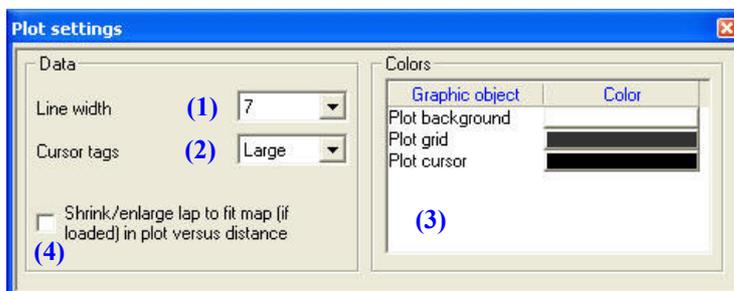

Fig. 4.14– *Plot settings* window
The layout of the view for the *Plot settings* window is shown in Figure 4.14 and described in the following chapters.
- To change the graph line width, please select the “line width” menu, shown as (1) in Figure 4.14, and choose the desired line width among the 6 possible values: 1 (the narrowest), 2, 3, 5, 7 and 9 (the widest).
- To change the cursor tag (i.e. the horizontal line which is shown on the diagram’s vertical cursor when a graph is met), please select the “Cursor tags” menu, shown as (2) in Figure 4.14, and choose the desired cursor tags among the 4 possible values: none, small (default value), large and full.
- To change the background (grid/cursor) colour, please select the “Colours” menu, shown as (3) in Figure 4.14, choose the desired graphic object you wish to change the colour and right click on the colour box. It will appear the “Colour window” previously described in chapter 4.7: please, refer to this chapter for further information.